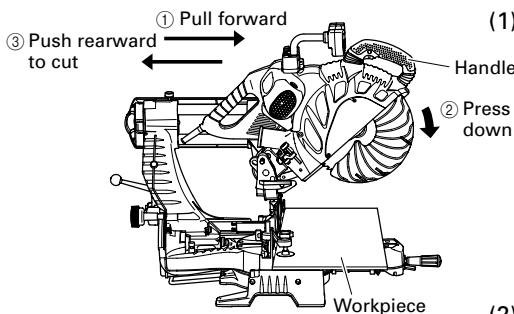

Fig. 29
Then press down on the handle and slide the saw blade back to cut the workpiece as indicated in Fig. 29. This facilitates cutting of workpieces of up to 4-3/16" (107 mm) in height and 12-1/4" (312 mm) in width.
**⚠ WARNING:** \* For slide cutting, follow the procedures indicated above in Fig. 29. Forward slide cutting (toward the operator) is very dangerous because the saw blade could kick upward from the workpiece. Therefore, always slide the handle away from the operator.